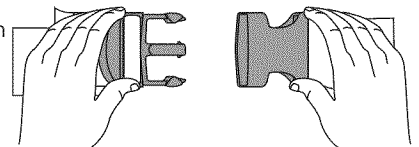

Fig. 2
1. Put the shoulder support on using the clip. (Fig. 2).